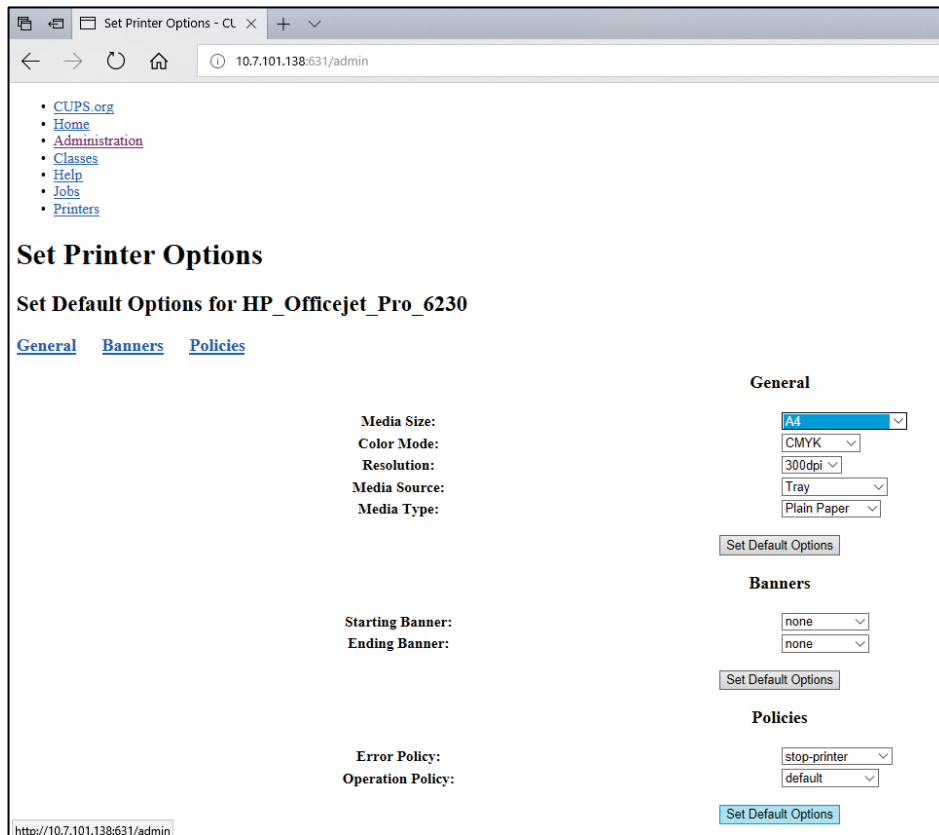

Figure 81. Selecting correct Media Size.
7. Select the correct **Media Size** (such as "A4"), because some printers will not print if the paper format is incorrect. Next, save the selection by pressing **Set Default Options** (Figure 81, next page).